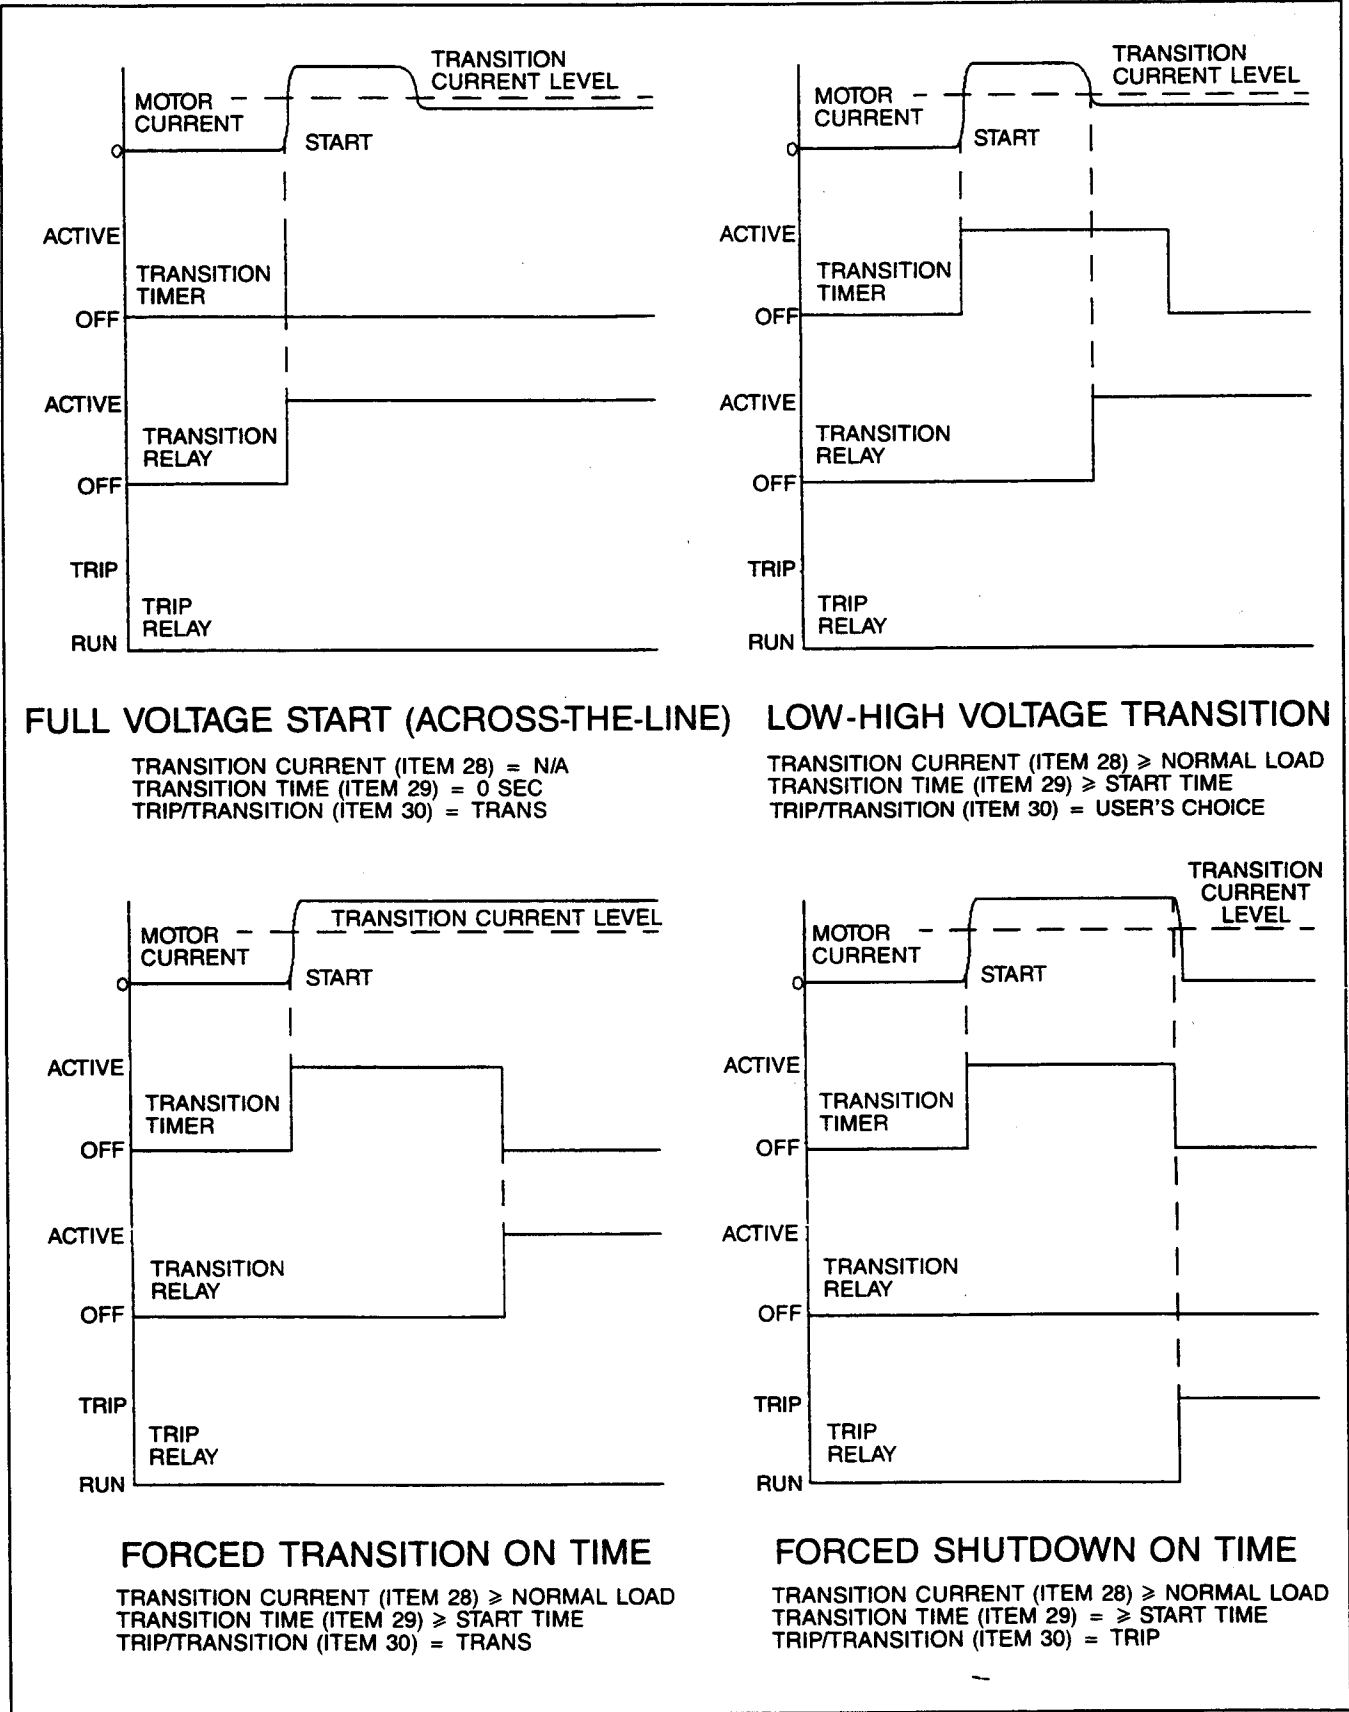

Figure 8.1: Transition/Trip on Time Out Timing
is stalled during starting. When 30% of full load is detected in any phase by the IQ-1000, a start is declared. The normal inrush currents of a motor (even a solid state starter with the voltage phased back) will exceed any of the allowable transition current levels immediately. If the current in any phase falls below the transition level within the transition time, the transition relay is energized and will remain so until a stop or trip condition occurs (See Figure 8.1(b).). Once a start has occurred, the current must go above the transition level within 8 line cycles or an immediate transition may be initiated.
If the transition relay is not used (across the line starts), the transition current (item 28) should be set to a maximum (150%) and the transition time to 0 seconds to force an immediate transition eliminating the start cycle (See Figure 8.1(a)). However, if the transition current is set to a minimum to force the IQ-1000 to transition on time, the transition relay can be used as a generic timer programmed by the transition time. Care must be take to insure the current will never fall below 50% (minimum transition current level) before the transition time.
8.14.3 Trip/Transition on Time Out Function — The IQ-1000 allows the user a choice of action when the transition time (item 29) expires before a transition on current is made. One action is to force the transition and energize the transition relay shown in Figure 8.1(c). The other is to create a transition trip to shut down the motor as in Figure 8.1(d). A transition trip will generate a message of "TRANS" on the display.